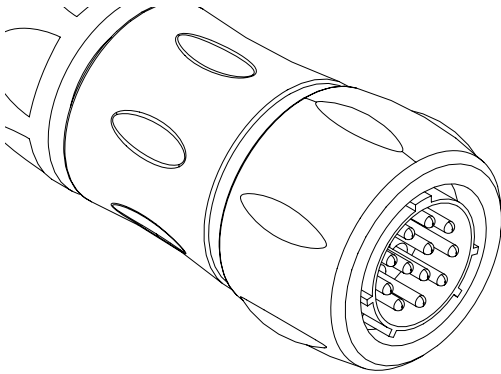
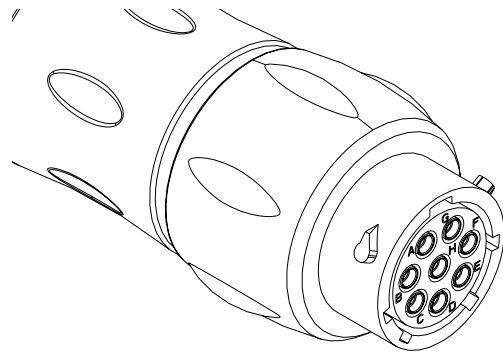

FIG. 1: Melter Connection
FIG. 2: Gun Connection
The large round connector is the melter end and has 2 feet (0.6 m) of cable (see Fig. 1). The small round connector is the gun end and has 2 feet (0.6 m) of cable (see Fig. 2).
- a. Use an ohmmeter to check the electrical resistance at the heating element pins between pins C and D of the melter end connector that attaches to the heated hose control. See FIG. 1. The resistance of the heating element for the various lengths of coupled hose assemblies is given in the following coupled hose chart.